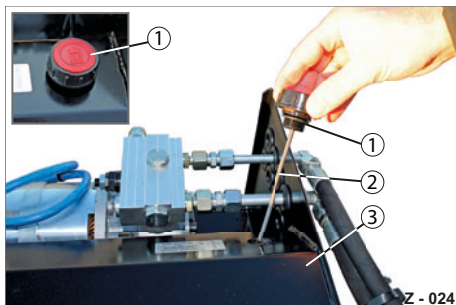

Abb. 6 Oil level
- ▶ Unscrew the cap (Abb. 6/1).
- ▶ Read off the oil level on the dipstick (Abb. 6/2).